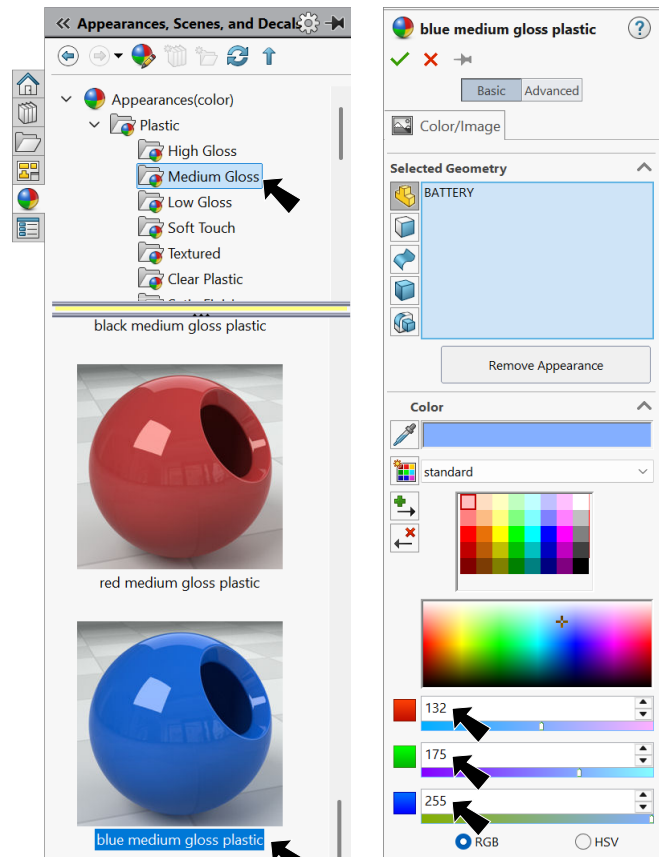

Fig. 72
Step 2. In the Appearances Task pane, expand **Plastic**, click **Medium Gloss** and in the lower pane select **blue medium gloss plastic**, Fig. 72.